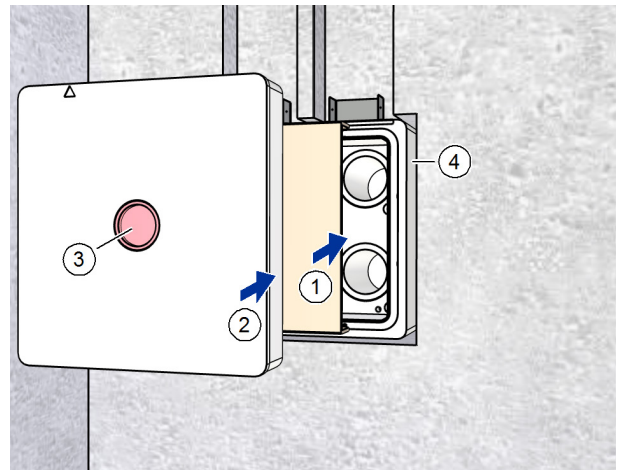

Fig. 13: Inserting the cardboard insert and protective cover
- ▶ Place the cardboard insert (item 1 in Fig. 13) in the wall box (item 4 in Fig. 13).
- ▶ Insert the protective cover (item 2 in Fig. 13) into the wall box (item 4 in Fig. 13) as far as it will go.
- ▶ Check that the red signal cover (item 3 in Fig. 13) is seated in the protective cover.